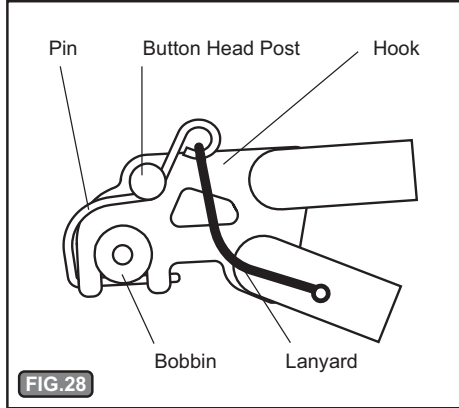

FIG.28
F) With the trailer hooks placed on the bobbins, insert the pin in the hole in the front edge of the hook. Slide the pin under the bobbin and into the hole in the back edge of the hook. Rotate the pin up, toward the button head post on the hook. To secure the pin, it is necessary to press it downward and toward the hook. When properly installed, the pin fits between the hook and the head on the button head post, as shown in Fig. 28. The rubber lanyard retains the pin when not installed.